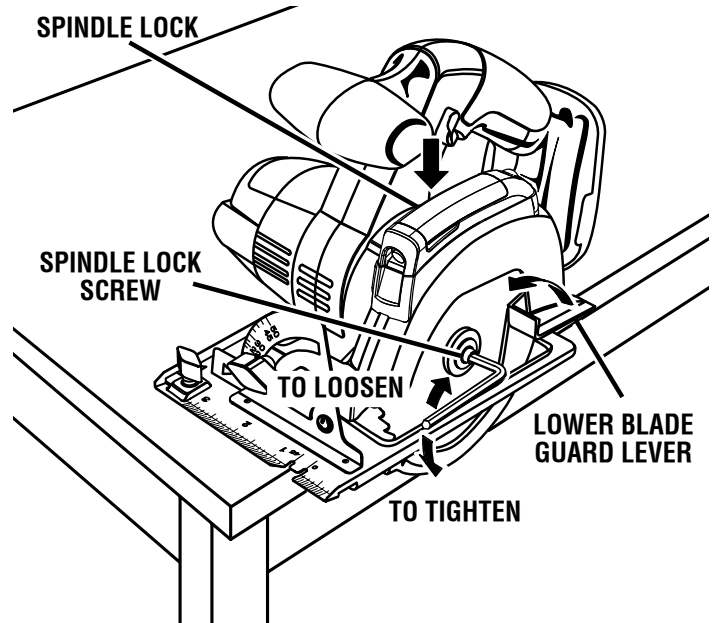

Fig. 5
- Place battery pack in your saw. Align raised rib on battery pack with groove inside saw, then slide battery pack in saw as shown in figure 5.
See Figure 5.
- Position saw as shown in figure 5, depress spindle lock button, and remove blade screw.